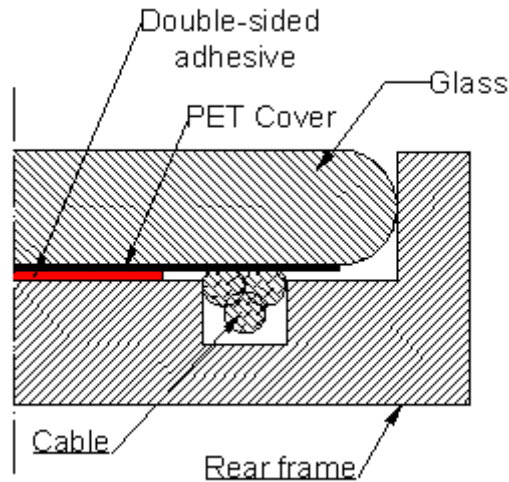

FIG.6 One structure of rear frame 一种后框结构
2.1 For the rear frame with the structure showed in FIG.6 below, please kindly stick the double-sided adhesive tapes onto the PET cover straightly and tightly and keep a 1mm distance from the inner edges of PET cover.